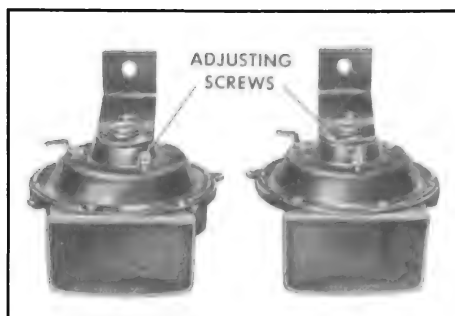

Figure 10-57—Matched Horn Set
3. Adjust to specified current draw if necessary, by turning adjusting screw clockwise to decrease or counterclockwise to increase current draw. Turn only 1/4 of a turn at a time. If adjustment loosens screw excessively, it may be staked with a prick punch. See Figure 10-57.